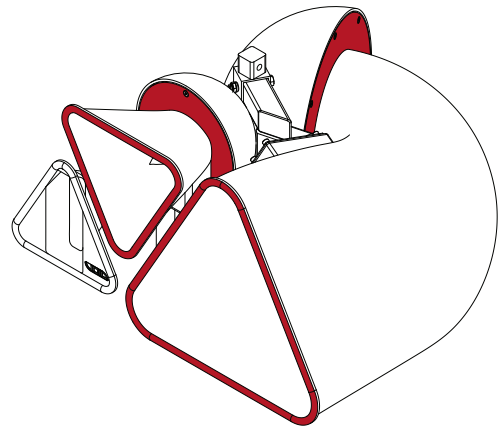

Figure 3.1: Safe handling positions diagram (as indicated in red)
- To remove from the transport case, each person should hold the Tri Motion on each side, with one hand on the edge of the horn flare, and the other supporting the weight of the drivers to the rear, as shown in figure 3.1